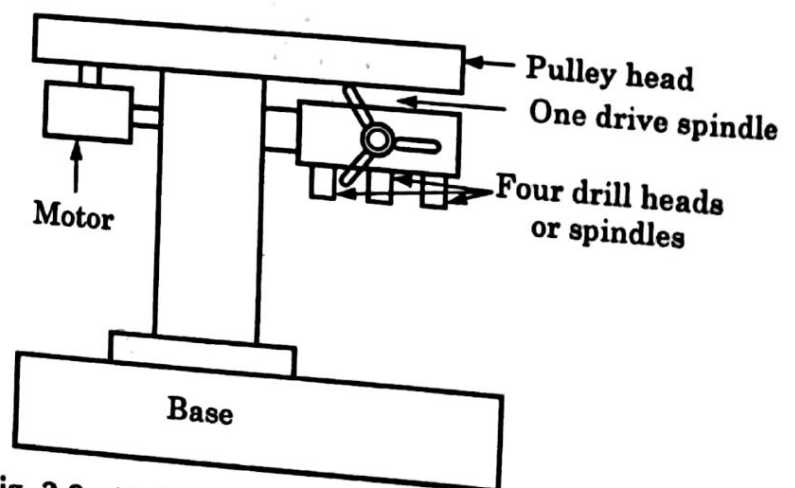

Fig. 2.9 : Multiple Drill Head Drilling Machine
5. Multiple Drill-Head Drilling Machine : This drilling machine may be provided with many spindles or drill heads. e.g. four, six, eight or twelve and so on, all driven from one spindle drive gear in one head (which is provided with one motor) so that at a time, four, six, eight or twelve holes can be drilled, reamed or tapped (See fig. 2.9). These machines are also called cluster drilling machines.